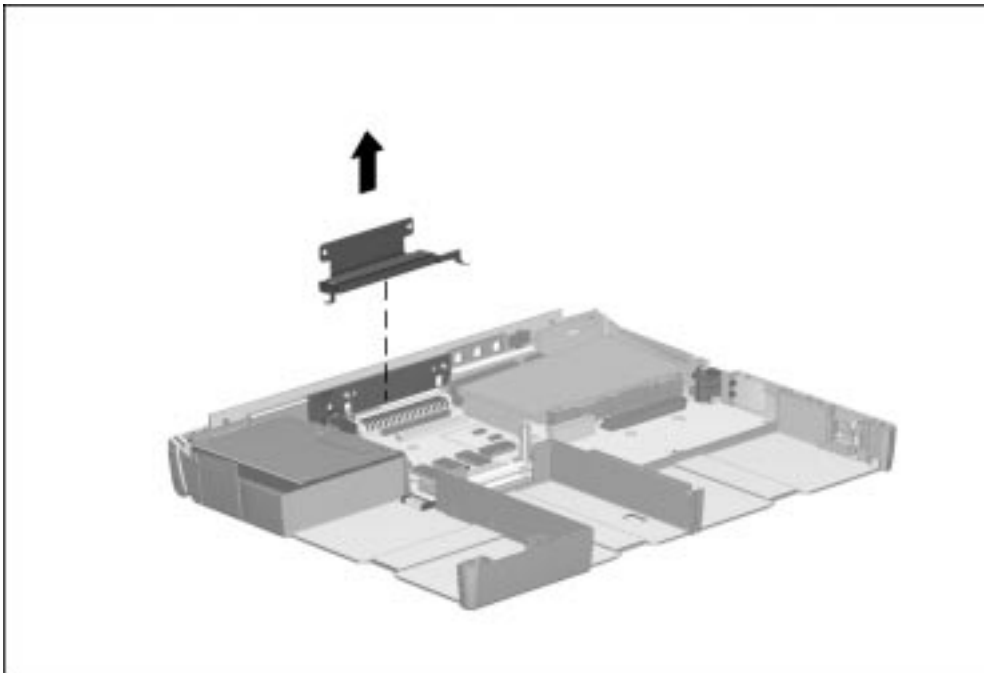

Figure 5-75. *Removing the Expansion Connector Shield*
14. Remove the expansion connector shield by lifting it from the computer base assembly (Figure 5-75). This step applies only to computer models with config. codes beginning with “BS”, “BZ”, and “CB”.